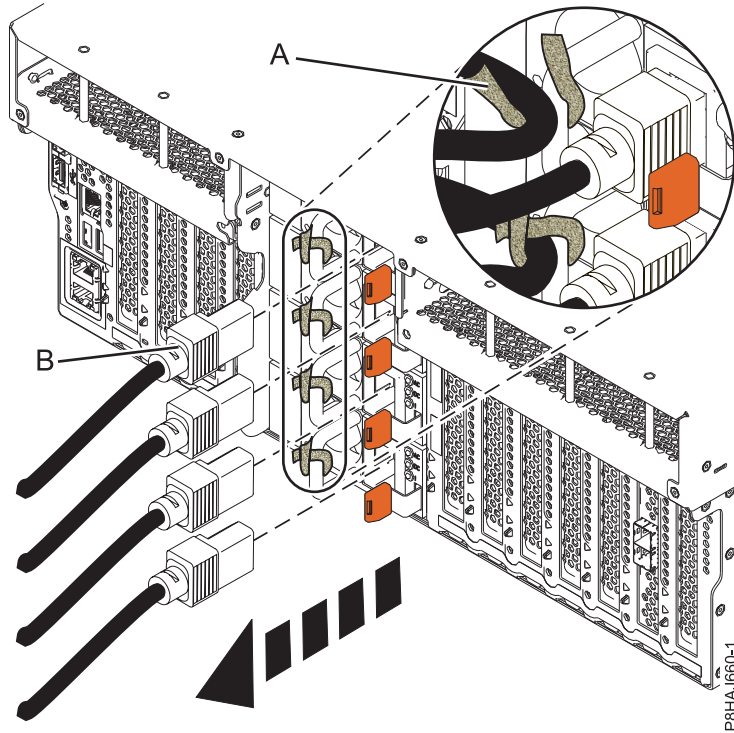
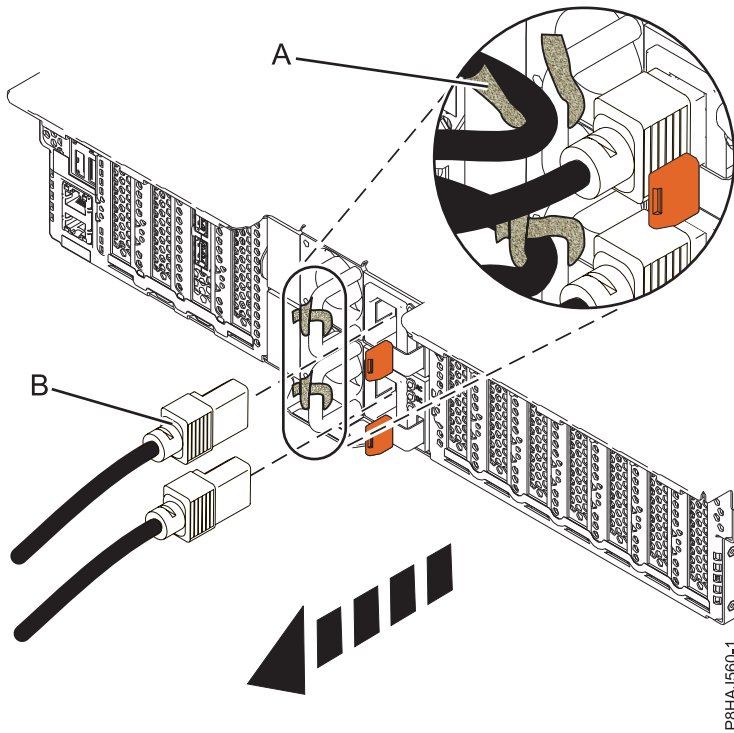
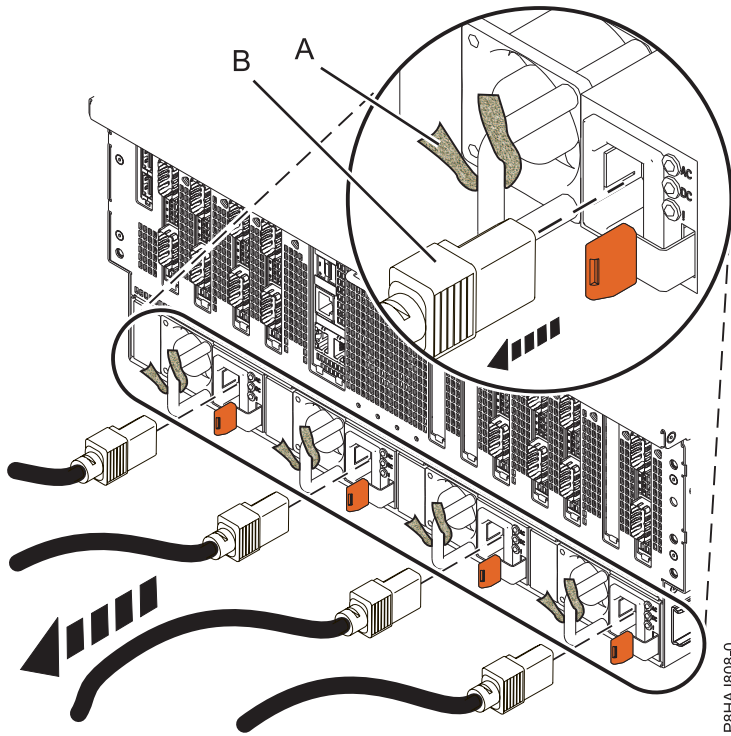

Figure 21. Removing the power cords from an 8247-42L, 8286-41A, or 8286-42A system
Figure 22. Removing the power cords from an 5148-21L, 5148-22L, 8247-21L, 8247-22L, 8284-21A, or 8284-22A system
Figure 23. Removing the power cords from an 8408-44E or 8408-E8E system
3. Disconnect the power cords (**B**) from the system unit. See Figure 21 on page 39, Figure 22 on page 39, or Figure 23 on page 40 or depending on the type of your system.